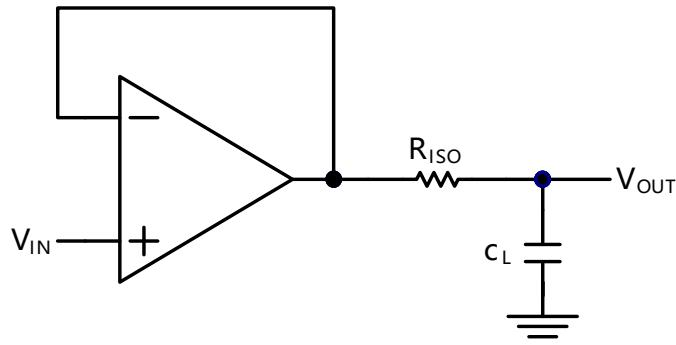
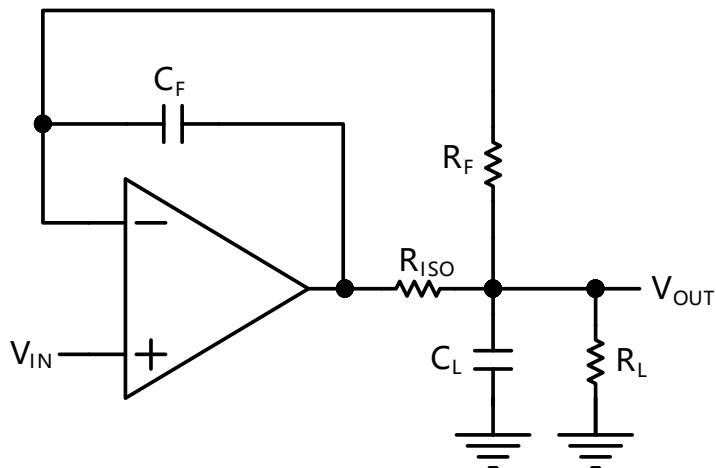

Figure 2. Indirectly Driving a Capacitive Load Using Isolation Resistor
Figure 3. Indirectly Driving a Capacitive Load with DC Accuracy
The CBM805X family is optimized for bandwidth and speed, not for driving capacitive loads. Output capacitance will create a pole in the amplifier's feedback path, leading to excessive peaking and potential oscillation. If dealing with load capacitance is a requirement of the application, the two strategies to consider are (1) using a small resistor in series with the amplifier's output and the load capacitance and (2) reducing the bandwidth of the amplifier's feedback loop by increasing the overall noise gain. Figure 2. shows a unity gain follower using the series resistor strategy. The resistor isolates the output from the capacitance and, more importantly, creates a zero in the feedback path that compensates for the pole created by the output capacitance.
The circuit in Figure 3 is an improvement to the one in Figure 2. RF provides the DC accuracy by feed-forward the VIN to RL. CF and RISO serve to counteract the loss of phase margin by feeding the high frequency component of the output signal back to the amplifier's inverting input, thereby preserving the phase margin in the overall feedback loop. Capacitive drive can be increased by increasing the value of CF. This in turn will slow down the pulse response.